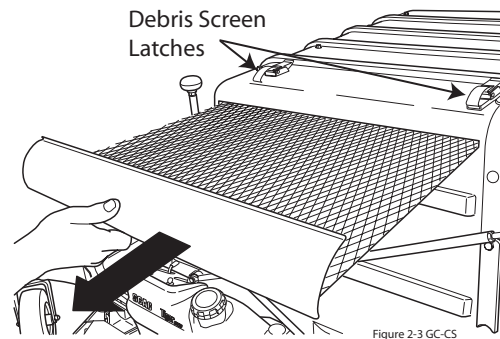

FIGURE 2-3
- D. Unhook the debris screen latches and remove the debris screen from the hopper. See Figure 2-3.